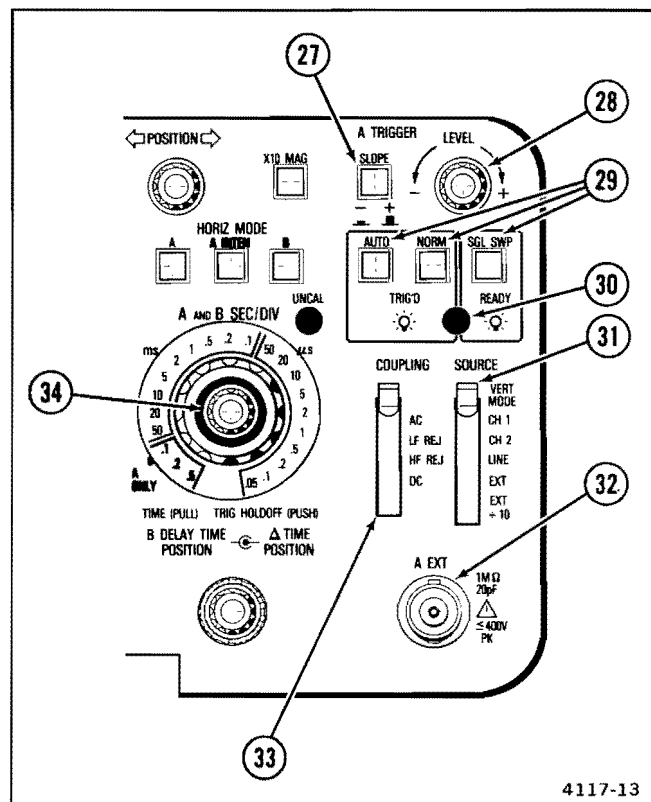

Figure 2-6. A TRIGGER controls, connector, and indicator.
Refer to Figure 2-6 for location of items 27 through 34.
- (27) **SLOPE Switch**—Selects the slope of the signal that triggers the sweep.
- (28) **LEVEL Control**—Selects the amplitude point on the trigger signal at which the sweep is triggered. The LEVEL control is usually adjusted for the desired display after trigger SLOPE, COUPLING, and SOURCE switch settings have been selected.
- (29) **Trigger Mode Switches**—Three push-button switches that determine the trigger mode for the A Sweep.